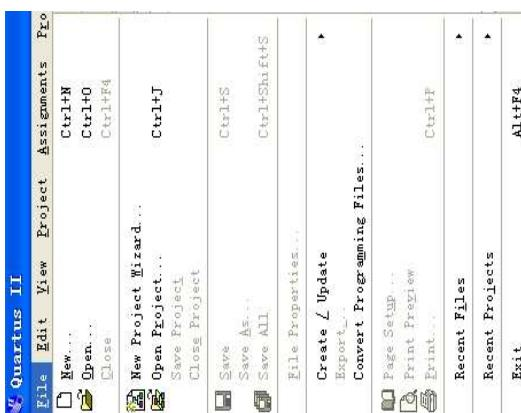
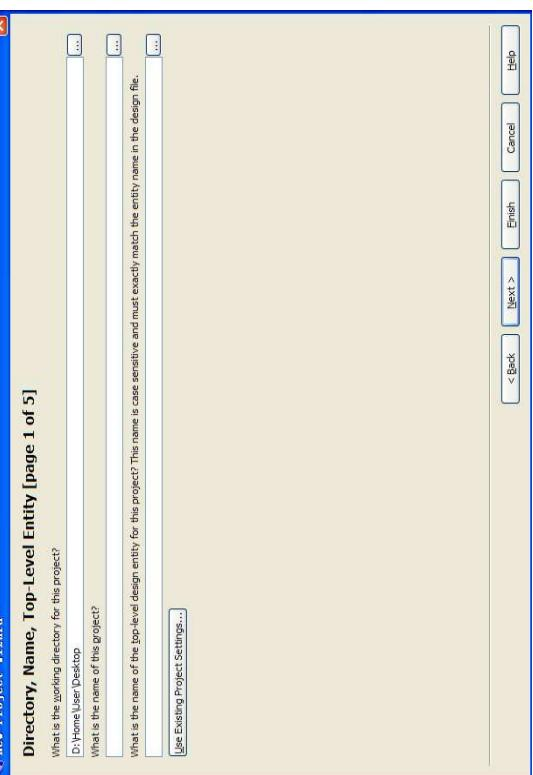

Figure 7-1 Start to Create a New Project
Figure 7-2 New Project Wizard
1. Launch Quartus II then select **File > New Project Wizard**, start to create a new project. See Figure 7-1 and Figure 7-2.